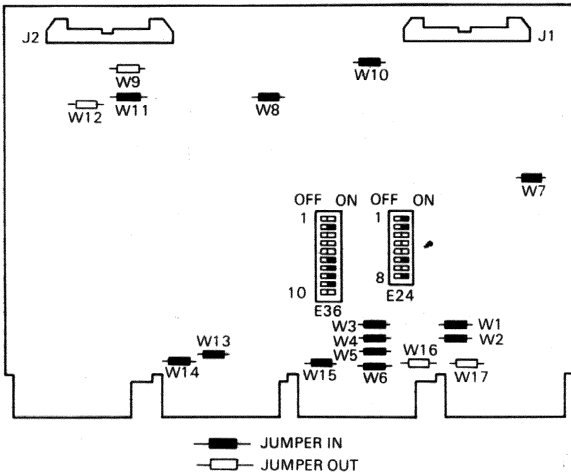

Figure 18 Jumper and Switch Locations
4. Check new PCB for jumper and switch position (see Figure 18)